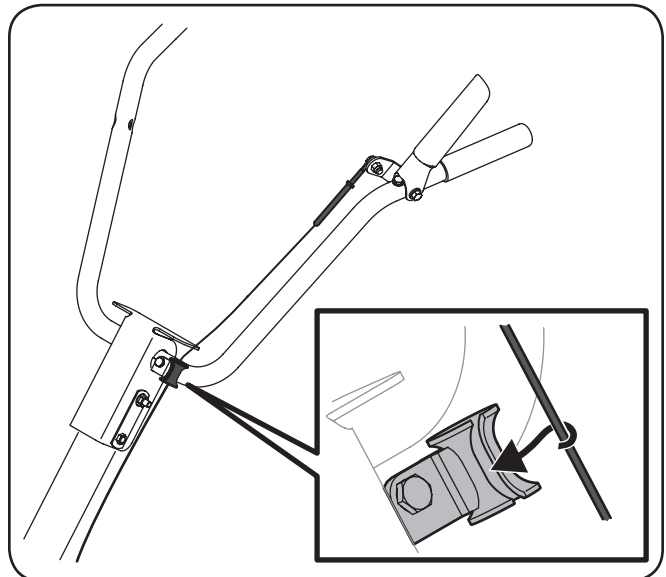

Figure 3-6
5. When the handle is in place, insert the clutch cable into the cable guide on the handle as shown in Figure 3-6.